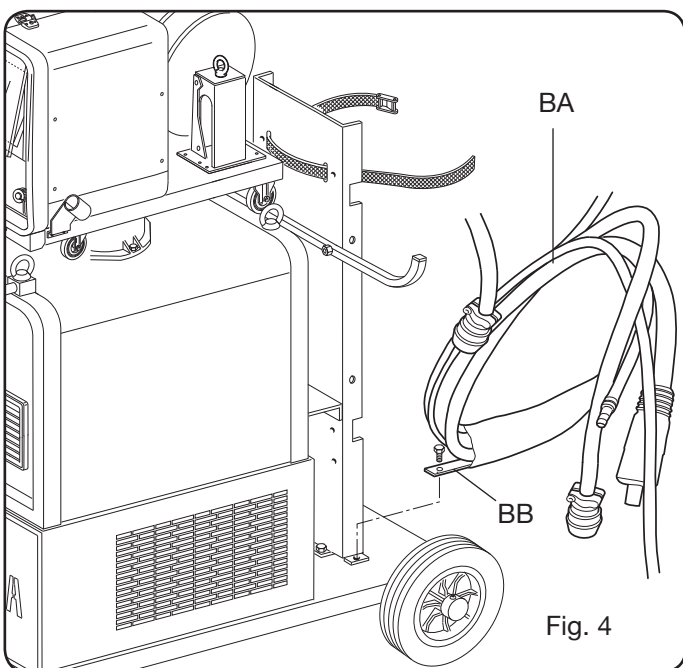

Fig. 4
- Block one end of connection **BA**, by fixing the tip **BB** to the bottom of the machine as shown in fig. 4.